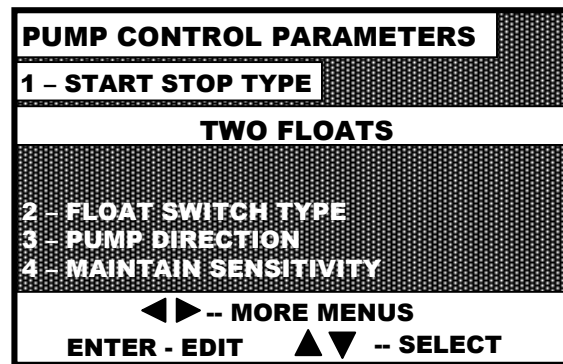

fig. 2
11. Confirm that **"TWO FLOATS"** is displayed. (*fig. 2*) If not, touch **ENTER** and then **DOWN** arrow until **"TWO FLOATS"** is displayed, then touch **ENTER** to set parameter. Blinking will stop.